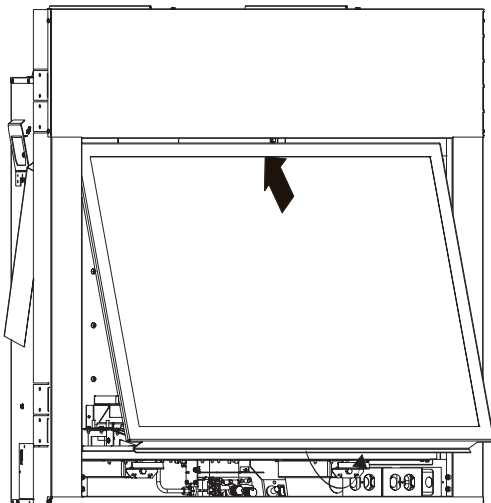

Figure 19
3. Pull glass out at the bottom, then lift up and off. See Figure 19.
8. Reinstall the glass frame and safety barrier screen removed in step 3. **See Figure 19.**